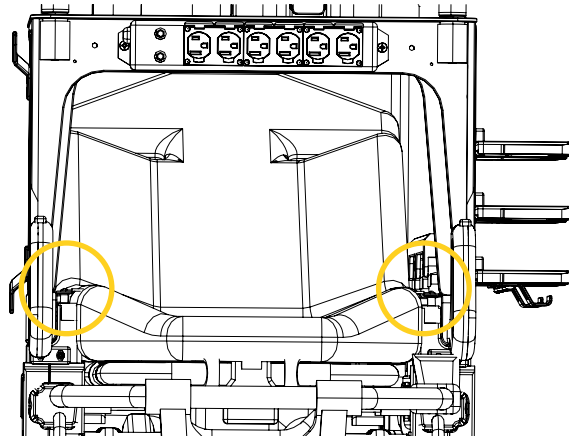

Figure 2: Lock pins
1. Ensure the lock pins on the mobile structure are well inserted on both sides, prior to installing the medical devices or performing a lateral transfer (Figure 2).